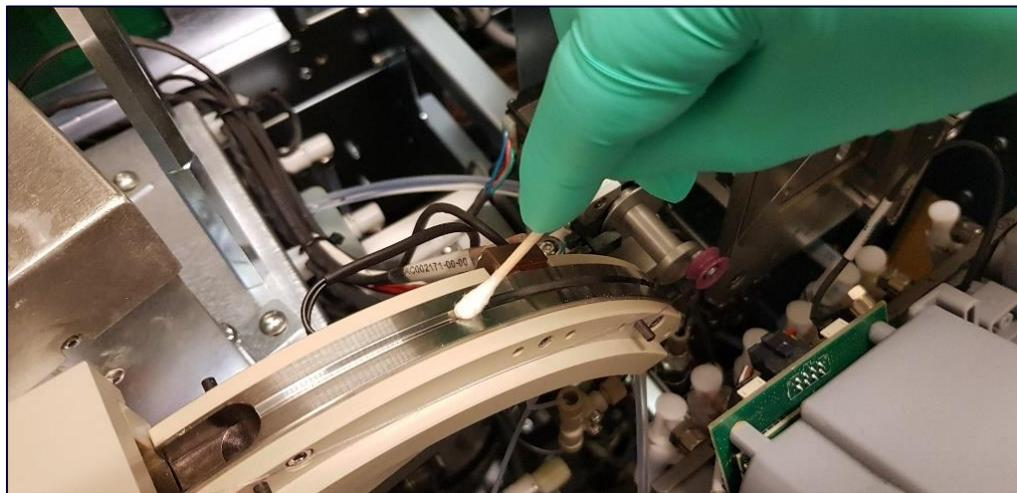

Figure 113: Cleaning the dyeing head
11. Clean the dyeing head with the stick as shown in Figure 113: Cleaning the dyeing head